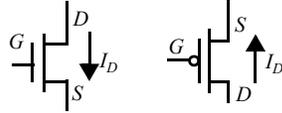

Figure 0.3 NMOS and PMOS devices.
3. [E, None, 3.3.2] Figure 0.3 shows NMOS and PMOS devices with drains, source, and gate ports annotated. Determine the mode of operation (saturation, linear, or cutoff) and drain current  $I_D$  for each of the biasing configurations given below. Verify with SPICE. Use the following transistor data: NMOS:  $k'_n = 115\ \mu\text{A}/\text{V}^2$ ,  $V_{T0} = 0.43\text{ V}$ ,  $\lambda = 0.06\text{ V}^{-1}$ , PMOS:  $k'_p = 30\ \mu\text{A}/\text{V}^2$ ,  $V_{T0} = -0.4\text{ V}$ ,  $\lambda = -0.1\text{ V}^{-1}$ . Assume  $(W/L) = 1$ .